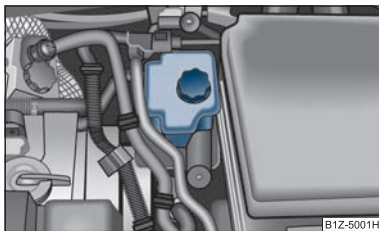

Fig. 125 Engine compartment: Brake fluid reservoir
- Inspect the brake fluid level in the reservoir ⇒ fig. 125. The level must be between the "MIN" and "MAX" markings.